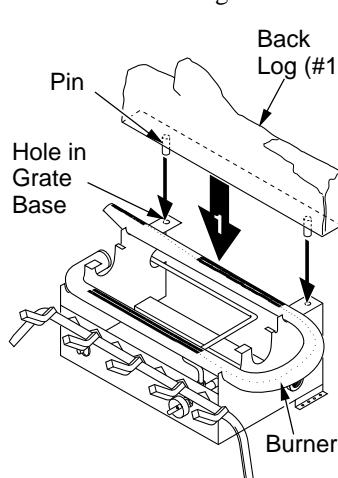

Figure 18 - Installing Back Log (#1)
1. Locate pins on the bottom of back log (#1). Slide these pins into the holes in the grate base behind the burner (see Figure 18).